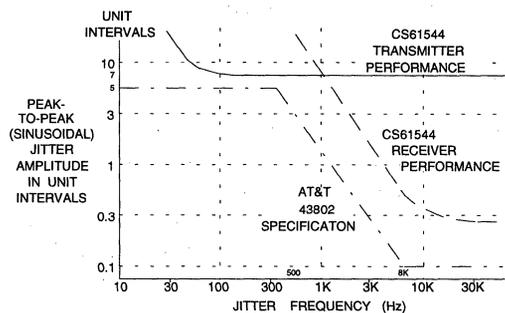

Figure 7 - Typical Input Jitter Tolerance of Transmitter and Receiver
9. For Cerdip ICs, assumes IC is operated within -70° to $+70^\circ$ C of reset temperature. For Plastic ICs, assumes IC is operated within -25° to $+40^\circ$ C of reset temperature (meets Bellcore central office specification: TR-EOP-000063 NEBS). For all packages, assumes IC is operated within 0.1 V of reset V_+ . Input data pattern is quasi-random: $(2^{120}) - 1$ with 1-in-15. Between 500 Hz and 8 kHz the jitter tolerance will be better than the AT&T 43802 line shown in Figure 7.